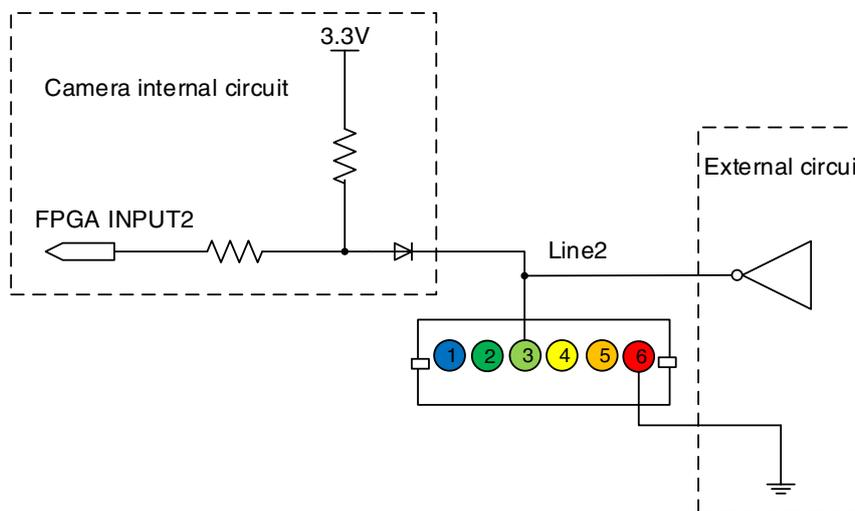

Figure 7-36 Internal equivalent circuit of camera when Line2 is configured as input
- When Line2/3 is configured as input, the internal equivalent circuit of camera is shown in Figure 7-36